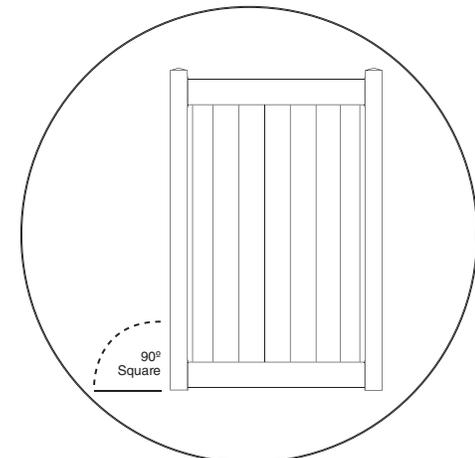

Figure 3
- Make sure the gate is square (Figure 3) and mark screw position in each of four corners. Make sure the screw placement allows for connection of the rail to the upright. (Figure 4)
- For Style A gates, secure the rails to the uprights using #2 square drive bit with #10 x 3/4 in. screws (40). For Style B gates, secure the rails to the uprights using #2 square drive bit with supplied screws (20). Repeat in each of the four corners on the front side of the gate and for Style A on the opposite side of the gate (eight corners).